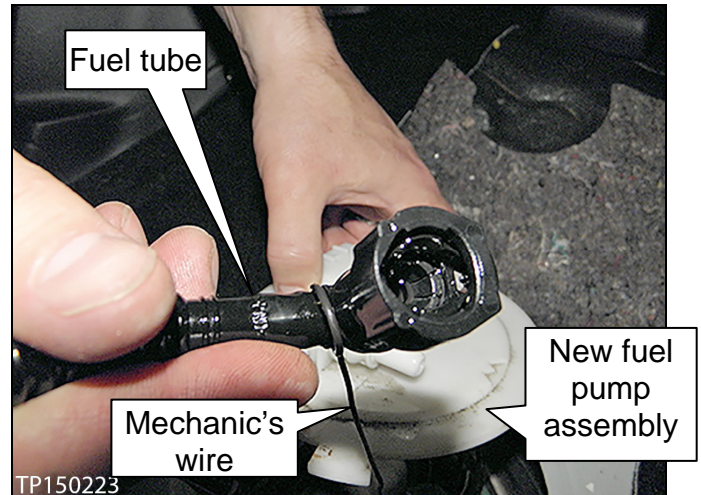

Figure 13
21. Attach the mechanic's wire to the fuel tube of the new fuel pump (see Figure 13).